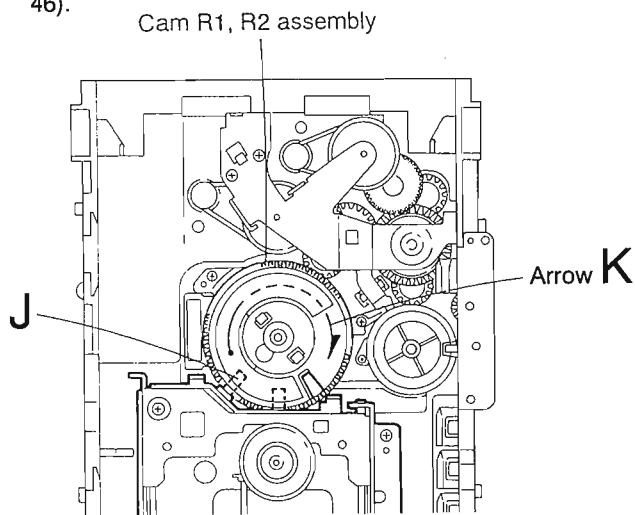

Fig.3-45
(See Figs.3-45 and 3-46)
1. For dismantling only the CD mechanism without removing the CD mechanism assembly, align the shaft "J" of the CD mechanism assembly to the position shown in Fig.3-45 while turning the cam R1 and R2 assembly in the arrow direction "K".